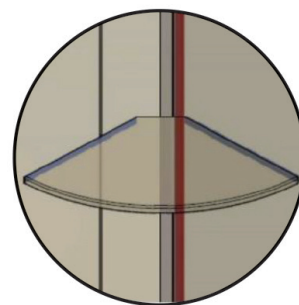

FIG 22.
- After 24-48 hours remove stabiliser blocks (FIG 22).